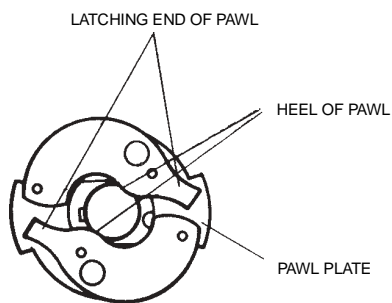

Figure 3.3.4C
10. Measure the clearance between the boss on the underside of each (2) impulse pawl and the pawl plate using a feeler gage. Position the latching end of the impulse pawl over the pawl plate as shown in Figure 3.3.4C.